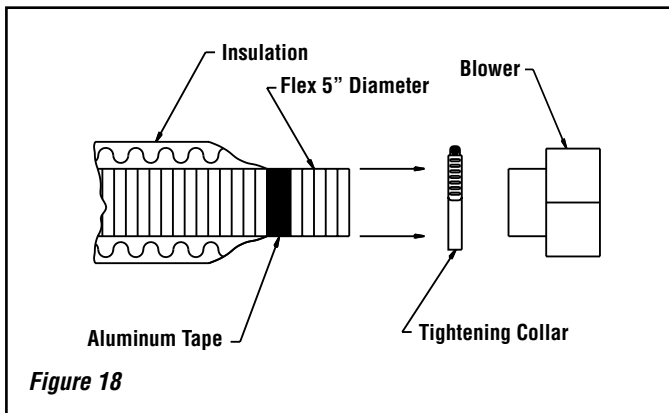

Figure 18
- D) Attach the flexible pipe to the blower, using the collars (*Figure 18*).